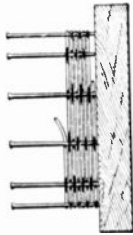

Fig. 2
Fig. 2 shows the partially finished coil. When the desired size is woven, the pegs are loosened from the base, the weave removed, and bathed in hot paraffin or shellac. Card-board tubing may be inserted on the inside for reinforcement. Fig. 3 shows the finished coil. Fig. 4 shows the secondary coil completed, with pivots, knob and connections to each pivot (A).